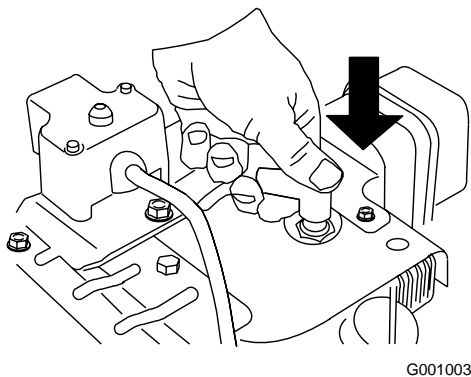

Figure 24
1. Connect the spark plug wire (Figure 24).